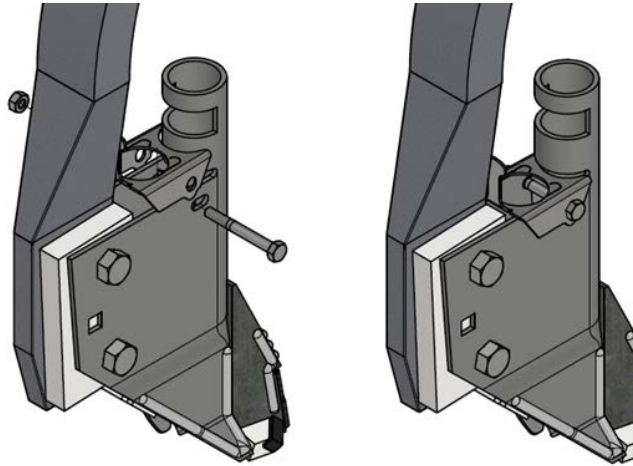

Figure 5: Install opener top
- 2) Install the provided stainless steel top on the opener using the $\frac{1}{4}$ " x 2 $\frac{1}{4}$ " bolt and locknut. Remove knock-outs from the top as seen in Figure 5.